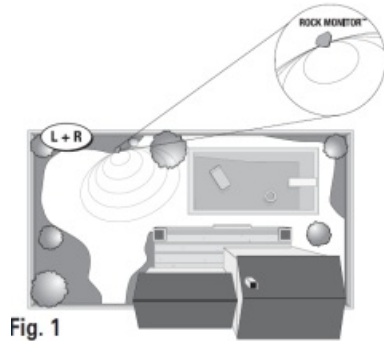

Fig. 1
• Single Speaker, Wide Dispersion “Left plus Right” Channel Sound (Fig. 1)
Perform a temporary connection (see “Connecting”) to test your speaker placement as follows: Volume: Walk around the area and ensure that sound is coming from each speaker, and that it is balanced throughout the listening area. If using a Volume Control(s) ensure that it is operating. Single Speaker, Wide Dispersion “Left plus Right” Channel Sound (Fig. 1): When sitting in the main listening area, sound should be spacious and clear.